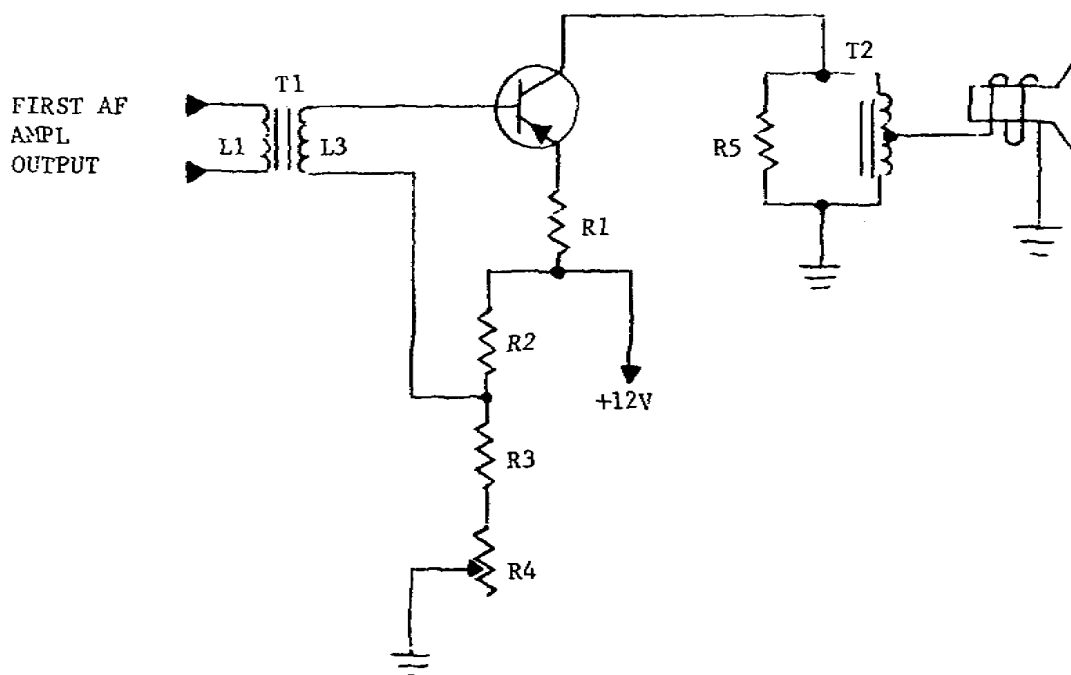

Figure 4-2. Single-ended transistor output amplifier.
- (3) Tone control. Tone control resistor R4 is connected to the collector through C2. Functionally, this control changes the amount of resistance in series with C2 and ground. The lower the resistance, the more efficient C2 becomes as a bypass for higher frequencies. With the control arm at position L, a maximum amount of high-frequency audio is bypassed and the tone quality is at its lowest. As the control is moved toward H, more resistance is added and less high-frequency audio is grounded, thus producing better tone quality.
b. Single-Ended AF Output Stage. A class A single-ended audio-output stage employing a high-power PNP transistor is shown in figure 4-2.
14. The primary function of resistor R4 in figure 4-2 of the attached memorandum is to